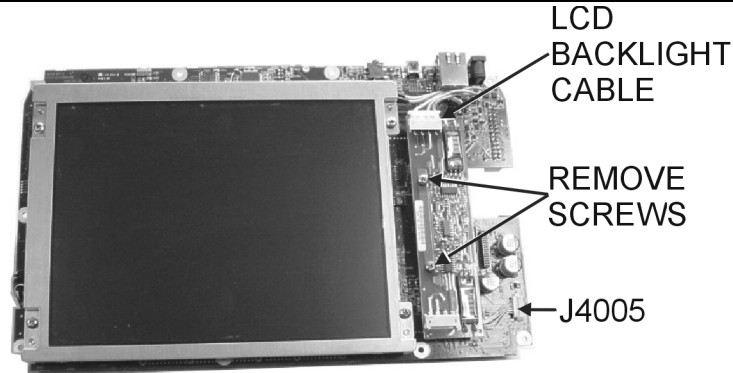

Figure 16. LCD Backlight PCB Removal and Replacement
4. Disconnect the LCD backlight cable from the LCD backlight PCB (Figure 16).